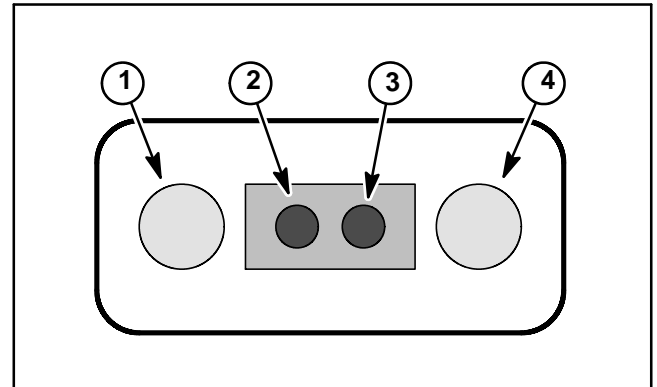

Figure 24
The sonic sensor includes a LED window that identifies sensor status during sprayer operation during operation of the Ultra Sonic Boom system (Fig. 24). To view the LED window, carefully remove cover from sonic sensor. The LED window includes four (4) LED's.